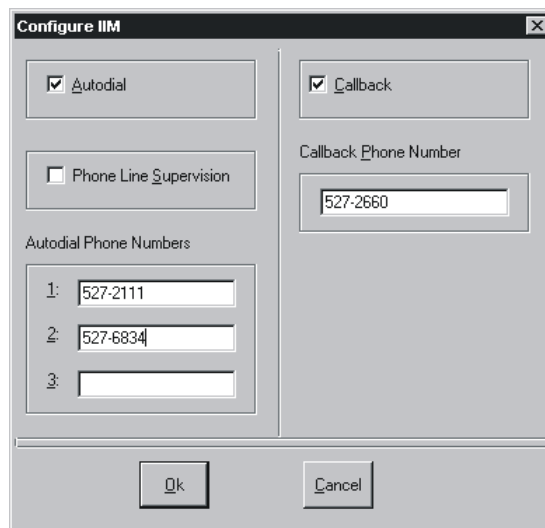

Figure 4-6. Configure IIM Window
2. Select **Setup>Autodial**. Figure 4-6 displays.